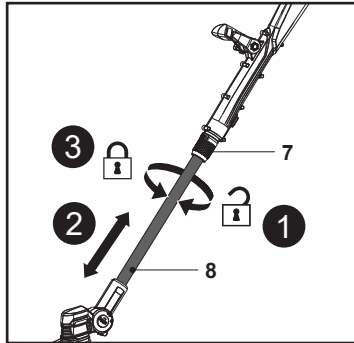

Fig. 6
1. Loosen the locking sleeve (7) in clockwise (Fig. 6, step 1).
2. Pull the lower pole (8) out or push it together to adjust the desired length (Fig. 6, step 2).
3. Tighten the locking sleeve (7) in anticlockwise (Fig. 6, step 3).